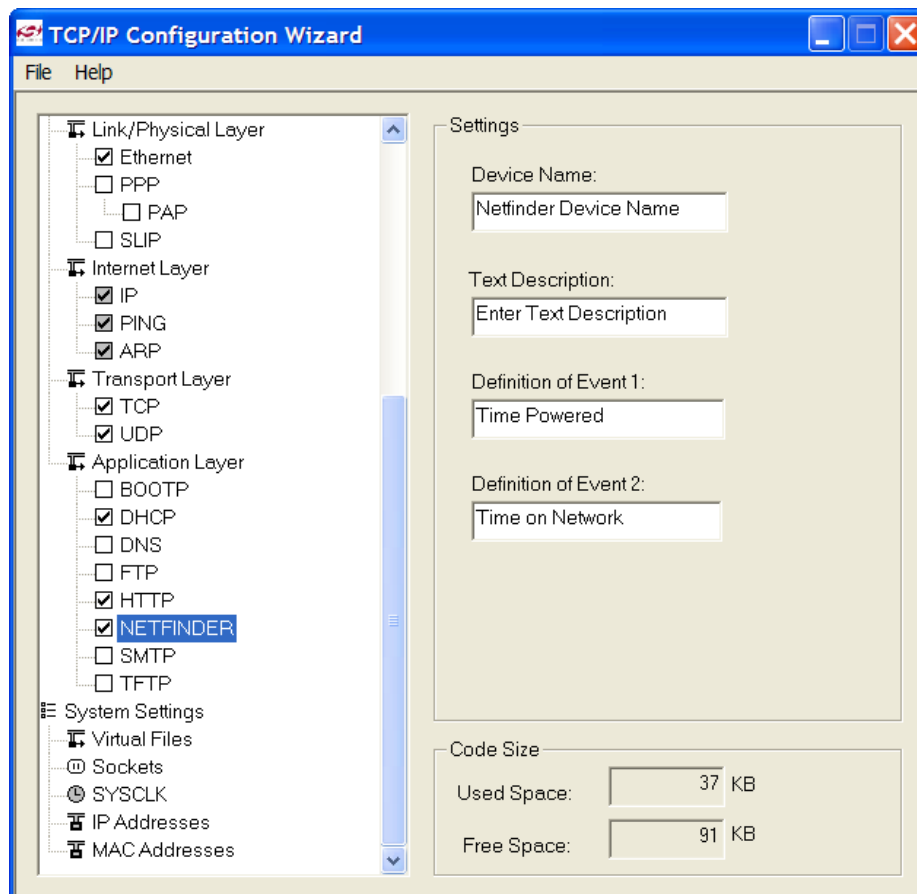

Figure 14. TCP/IP Configuration Wizard Protocol Selection
4. In the **Protocol Settings** section of the left window, make sure **Ethernet** is selected then check **DHCH**, **HTTP**, and **NETFINDER**. The lower level protocols (TCP and UDP) will automatically be enabled as shown in Figure 14.